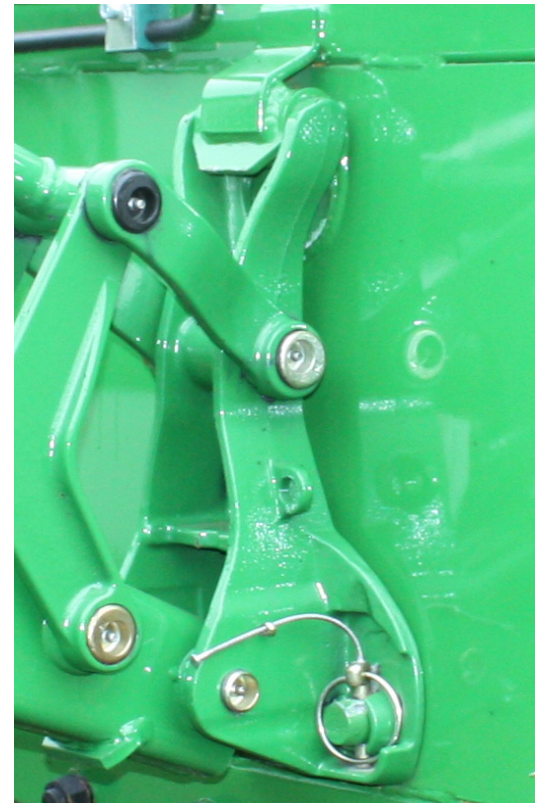

Figure 2
5. Secure the clevis pins into the locking pins on both sides of the attachment. see figure 2;